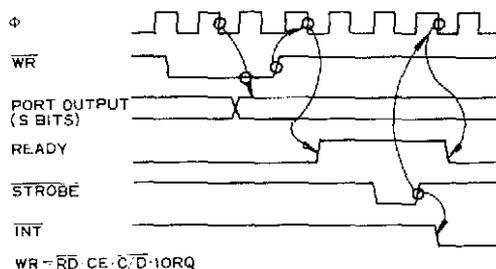

FIGURE 5.0-1
Figure 5.0-1 illustrates the timing associated with Mode 0 operation. An output cycle is always started by the execution of an output instruction by the CPU. A \overline{WR}^* pulse is generated by the PIO during a CPU I/O write operation and is used to latch the data from the CPU data bus into the addressed port's (A or B) output register. The rising edge of the \overline{WR}^* pulse then raises the Ready flag after the next falling edge of Φ to indicate that data is available for the peripheral device. In most systems the rising edge of the Ready signal can be used as a latching signal in the peripheral device if desired. The Ready signal will remain active until: (1) a positive edge is received from the strobe line indicating that the peripheral has taken the data, or (2) if already active, Ready will be forced low $1\frac{1}{2}$ Φ cycles after the leading edge of \overline{IORQ} if the port's output register is written into. Ready will return high on the first falling edge of Φ after the trailing edge of \overline{IORQ} . This guarantees that Ready is low when port data is changing. The Ready signal will not go inactive until a falling edge occurs on the clock (Φ) line. The purpose of delaying the negative transition of the Ready signal until after a negative clock transition is that it allows for a very simple generation scheme for the strobe pulse. By merely connecting the Ready line to the Strobe line, a strobe with a duration of one clock period will be generated with no other logic required. The positive edge of the strobe pulse automatically generates an INT request if the interrupt enable flip flop has been set and this device is the highest priority device requesting an interrupt.